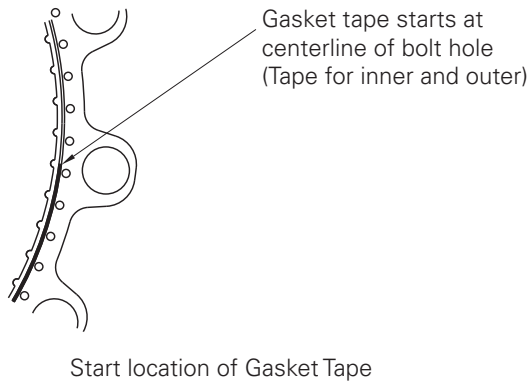
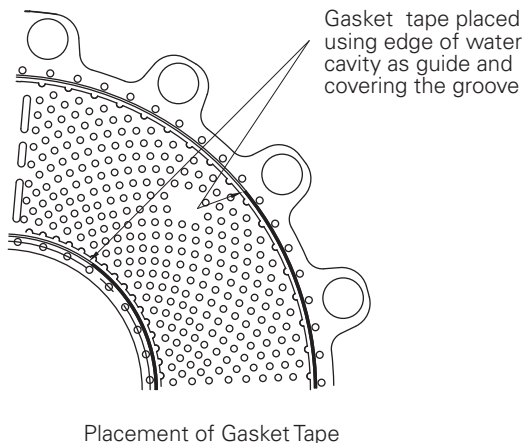

Figure 10
Figure 11
- (a) Start with the sealing area nearest to the inner diameter on the IRON. Remove the adhesive backing on the gasket tape a little at a time to prevent the adhesive from picking up dirt during installation. Start by positioning one end of the tape at the center-line of a bolt hole as shown in Figure 10, using the edge of the water cavity as a guide as shown in Figure 11. Proceed to apply the tape on the sealing surface following a smooth circular path, being sure to press the tape in place.